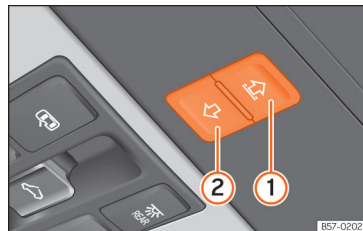

Fig. 149 On the interior roof lining: switches for the sun blind.
Buttons **Fig. 149** **1** and **2** have two levels. The first level opens or closes the sun blind fully or partially.
- *Sun blind*: within approximately 5 seconds of having activated the anti-trap function, press button »» Fig. 149 ② until the sun blind closes completely.